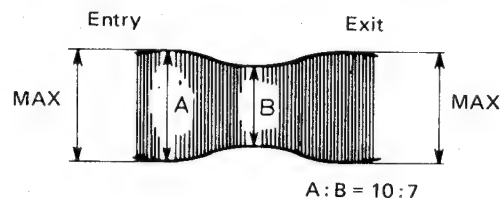

Figure 31
5. Adjust so that when the tracking control is shifted (when the tracking control is moved and A of the RF waveform begins to decline), the ratio between A and B in Figure 31 is better than $A:B = 10:7$.